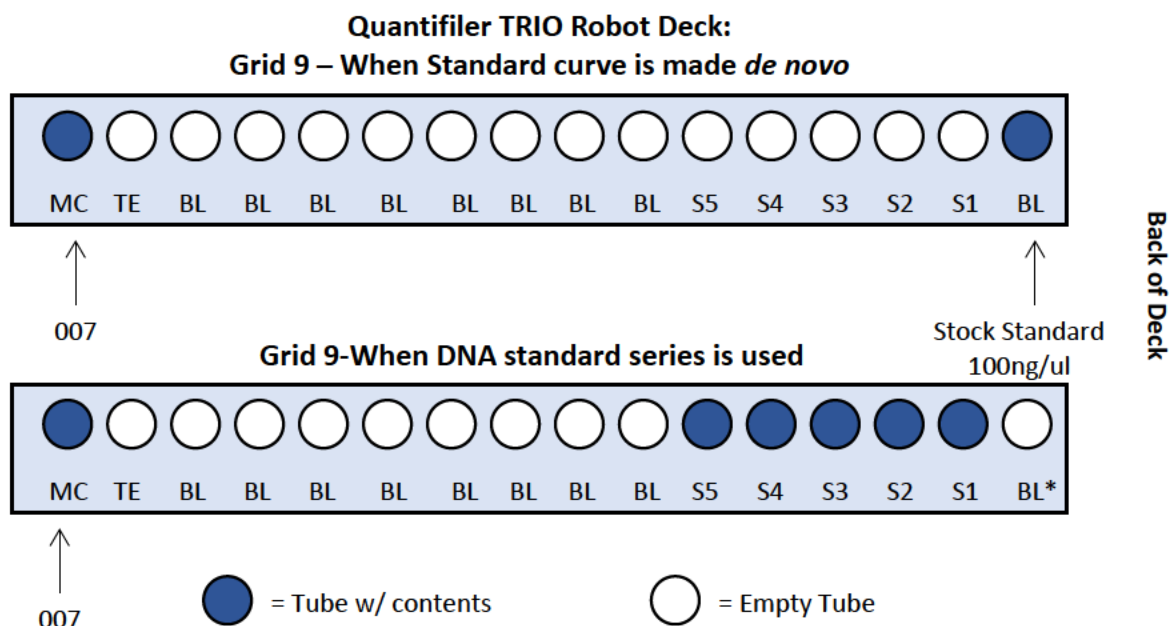

Figure 1 – Example Sample Positioning for Standards Rack
4.5.3	<p>Place tubes in the Standards Rack (see Figure 1):</p> <ul style="list-style-type: none"> • Positions 1 through 6: the Quantifiler® TRIO stock DNA standard solution* (with a unique “BL” barcode) and the standard dilution series tubes (with barcodes “S1” through “S5”). • Positions 7 through 14: empty tubes (with unique “BL” barcodes). • Position 15: a new uncapped tube (with a “TE” barcode). • Position 16: an uncapped 007 tube (with an “MC” barcode)